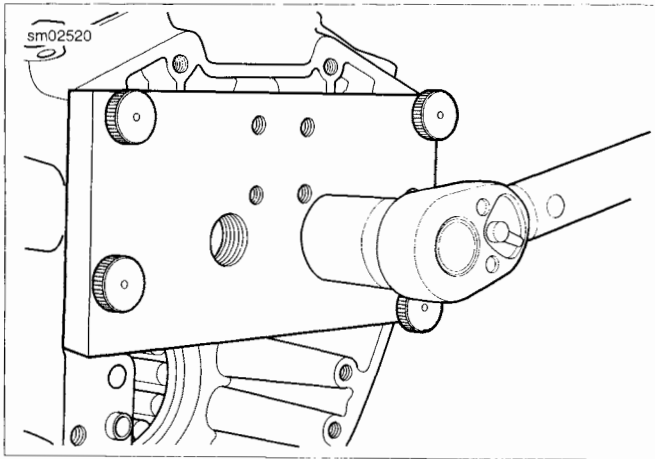

Figure 3-136. Bearing Installation
- a. See Figure 3-136. Turn hex at end of installer forcing screw in a clockwise direction to press needle bearing into bore.